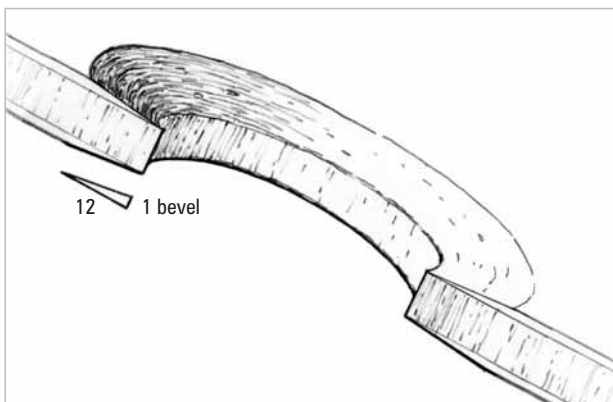

Figure 5-13 Grind a 12-to-1 bevel on the edges of the inner and outer skins.
1. Prepare the hole by cutting away ragged or damaged skin. Cut back to undamaged core and skin while maintaining a circular or oval hole shape. Grind a minimum 12-to-1 bevel on the edges of the inner and outer skins at the hole to provide adequate bonding surface when re-laminating the skin repair patches. For example, if the skin is $\frac{1}{4}$ " (6mm)-thick, the bevel will extend 3" (76mm) from the edge of the hole (*Figure 5-13*).